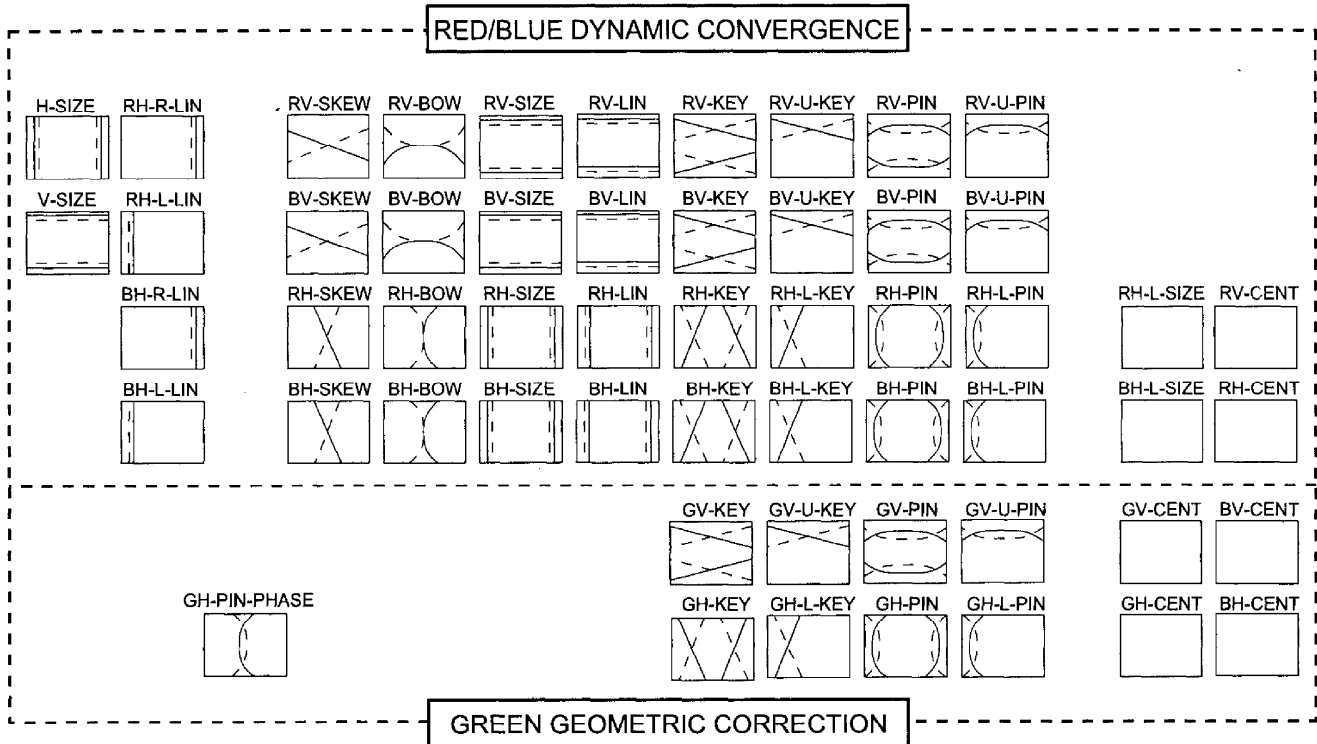

Fig. 2-17-1
- (1) When adjusting the R, turn off the B using any one of the following procedures as required.
- (2) When adjusting the B, run off the R using any one of the following procedures as required.
- (3) The position of VRs and the movement of the bright lines are shown in Fig. 2-17-1 and Fig. 2-17-2.